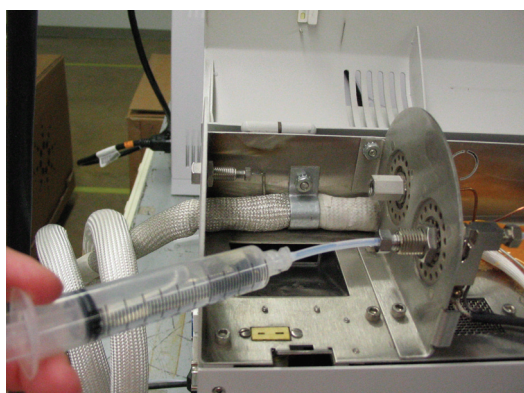

Figure 6.35. Rinsing the Sample Pathway with Methanol
6. Using the rinsing tool and a syringe, rinse 10 mL of methanol through the sample pathway, collecting it in the sparge vessel (see Figure 6.35).